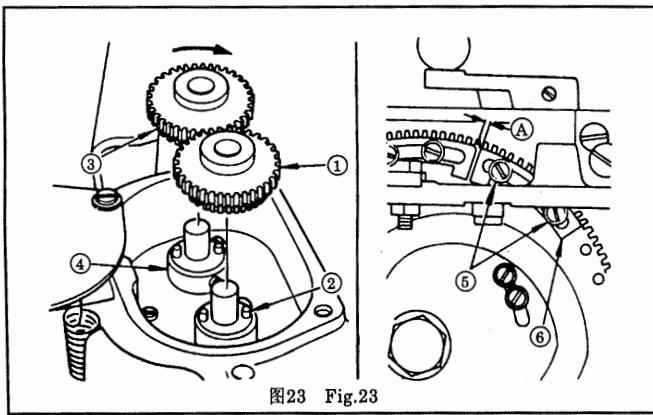

图23 Fig.23
* 齿轮的安装 图23
- 1)先将齿轮①插进蜗轮轴里和靠近操作者一侧的交换齿轮挡圈②上的定位销内。
- 2)再将齿轮③一边按箭头方向旋转，一边插进离操作者远的交换齿轮挡圈④上的定位销内和送料凸轮传动轴里。
* **Attaching the spur gears to their shafts** Fig.23
- 1) Push gear ① into the shaft so that it is securely fixed by the pin on gear bushing ② located nearer to an operator.
- 2) For installing gear ③ on the pin of rear gear bushing ④, push gear ③ into the shaft while turning it in the arrow direction.